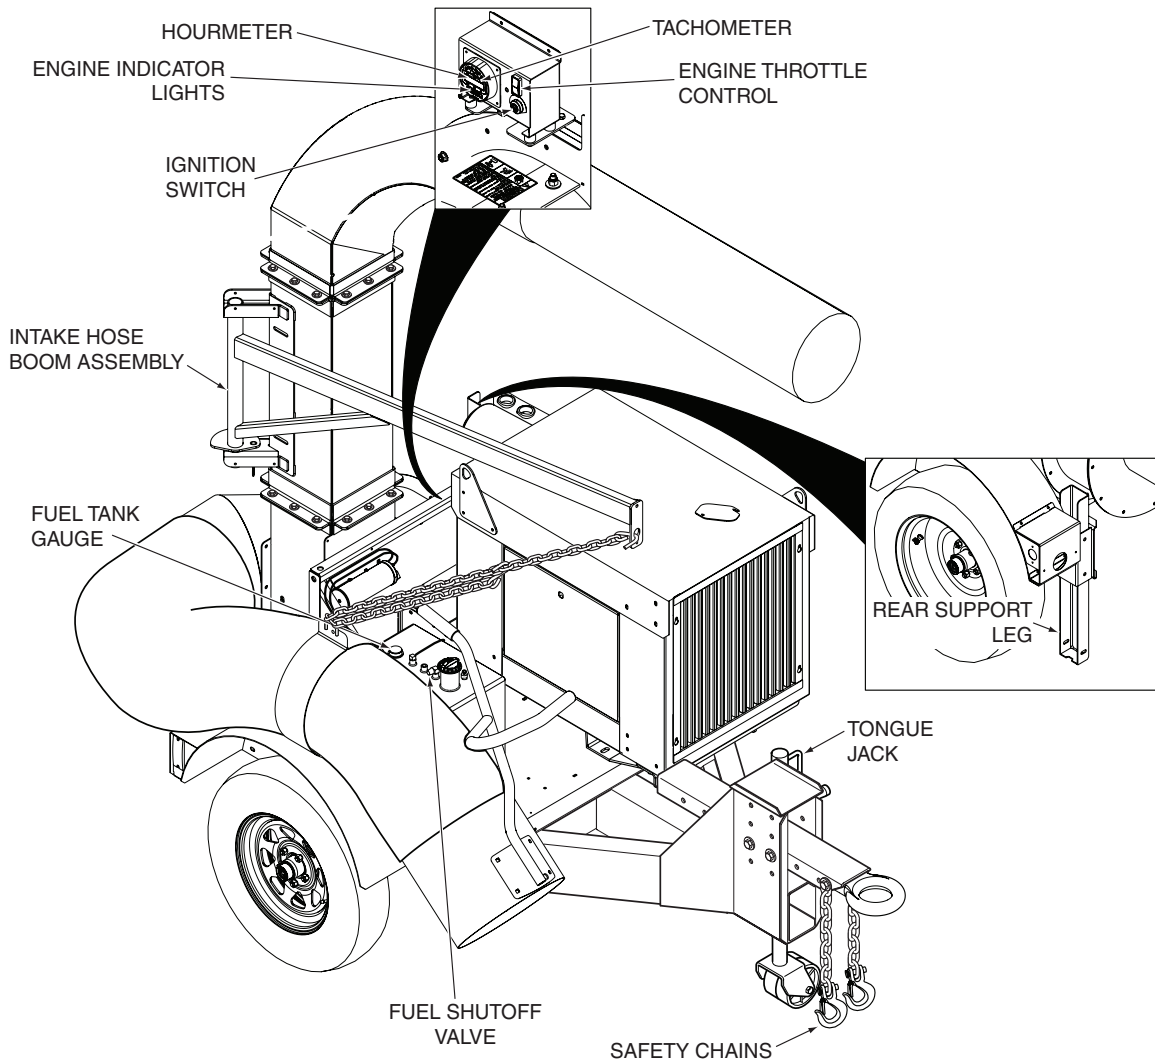

Figure 4-1. Controls and Instruments
1. **Ignition Switch (Figure 4-1).** The ignition switch is used to start the engine and has three positions; OFF, ON, and START.
2. **Engine Throttle Control (Figure 4-1).** Used to control the engine speed. Push the throttle control button up (rabbit) to increase engine speed and push the throttle control button down (turtle) to decrease engine speed.
3. **Hourmeter (Figure 4-1).** Indicates the number of hours the engine has been operated.
4. **Tongue Jack (Figure 4-1).** Used to raise and lower the ball hitch receiver or optional pintle hitch onto or off of the tow vehicle.
5. **Safety Chains (Figure 4-1).** Used to connect to the tow vehicles cradle draw bar in criss-cross fashion in case of an accidental disconnect.
6. **Rear Support Leg (Figure 4-1).** Used to support the truck loader when disconnected from the tow vehicle.
7. **Fuel Tank Gauge (Figure 4-1).** Indicates the amount of fuel in the fuel tank.
8. **Fuel Shutoff Valve (Figure 4-1).** Located on the fuel tank. Used to shut off fuel supply to the engine. Rotate the valve counter clockwise to supply fuel. Rotate the valve clockwise to shut off fuel supply.
9. **Intake Hose Boom Assembly (Figure 4-1).** Used to support the intake hose. The support chain can be raised or lowered until the intake nozzle floats 2-3 inches from the ground to help make operation easy and comfortable.
10. **Hourmeter (Figure 4-1).** Indicates the number of RPM's the engine has being operated at.
11. **Engine Indicator Lights (Figure 4-1).** Indicates the operation of the engine sensors for battery voltage, oil pressure, water temperature and glow plug pre-heat. If a problem occurs with a sensor on the engine, the light will illuminate (excluding the glow plug pre-heat). See your authorized Scag Power Equipment Dealer for diagnosis and repair.
2. Be sure the fuel shutoff valve, located on the fuel tank, is completely open. See Figure 4-1.